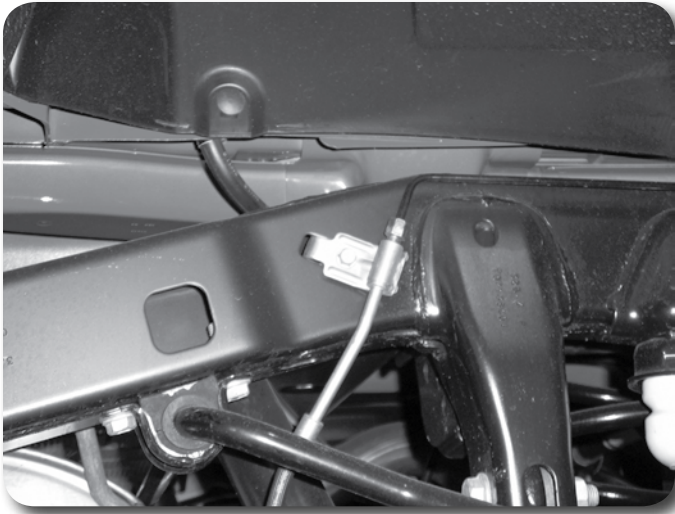

Figure 16
6. Disconnect the rear brake line retainers from the frame. Save hardware. Figure 16